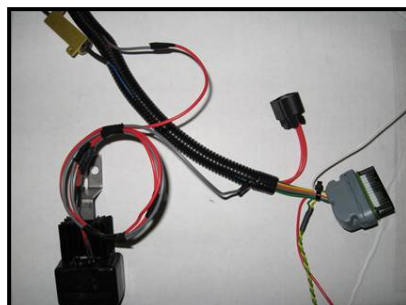

FIG 3 | *Correctly wired module in harness*
- STEP 5 (fig 3)** Connect the grey wire on the newly supplied module to the cut grey wire which goes directly into the grey 24 pin main connector of the controller.
- STEP 6 (fig 3)** Connect red wire on newly supplied module to the other side of cut grey wire which leads away from controller into the harness.